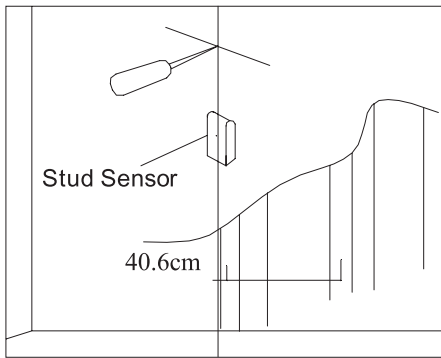

figure 2a-1
Using the wall bracket (AA) as a template, mark four or six evenly spaced holes on the wall. Two or three holes in the top row slots, two or three in the bottom row, making sure that the holes are level. For 70", 80", and 90" screens, 3-hole installation must be used, unless the installation is performed or checked by a professional installer. There must be at least 15.2cm spacing between any two holes. Use masonry drill bits to drill 14mm diameter and 84mm depth holes. Insert the anchor (N) into these holes respectively, ensuring that they are flush with the wall surface (as shown in figure 2c-1 and 2c-2), and then use four or six lag bolts (M) to install the wall plate to the wall (as shown in figure 2a-3 or 2b-3).